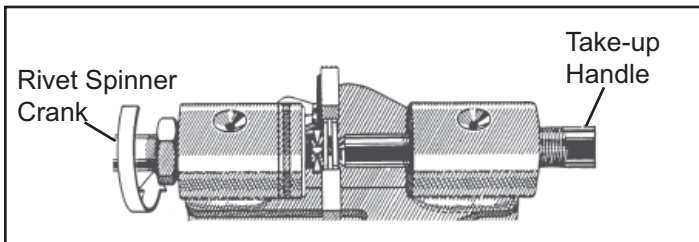

Figure 20. Centering the Rivet Hub
4. turn the rivet spinner crank a few times to center the rivet hub in the spinner anvil (Figure 20).